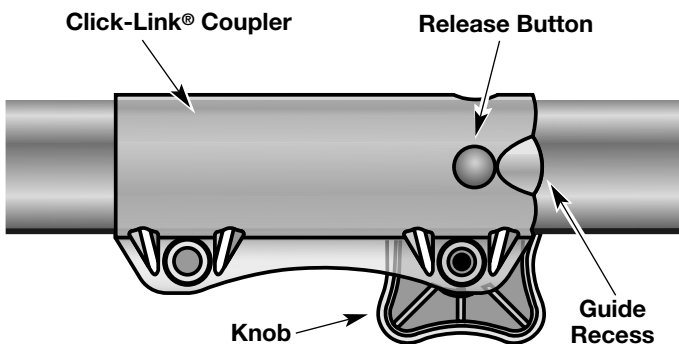

Fig. 10
1. Turn the knob counterclockwise to loosen (Fig. 10).
2. Press and hold the release button (Fig. 10).